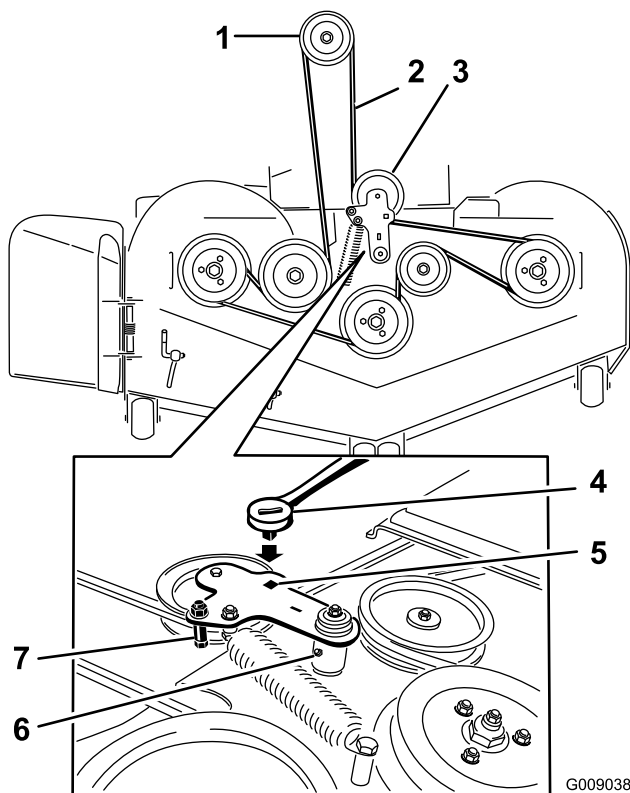

Figure 79
5. Use a ratchet in the square hole in the idler arm to remove tension on the idler spring (Figure 79).
7. Remove the belt guide on the spring-loaded idler arm (Figure 79).
9. Install the new belt around the mower pulleys and the clutch pulley under the engine (Figure 79).
10. Install the belt guide on the idler arm (Figure 79).
11. Using the ratchet in the square hole, install the idler spring (Figure 79).